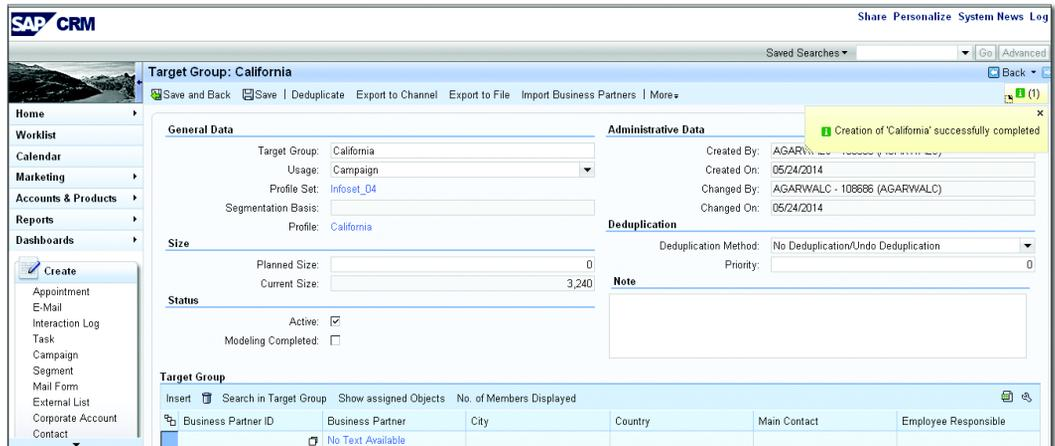

Figure 5.66 Segmentation Basis Created
3. Save the segmentation basis, as shown in Figure 5.66.